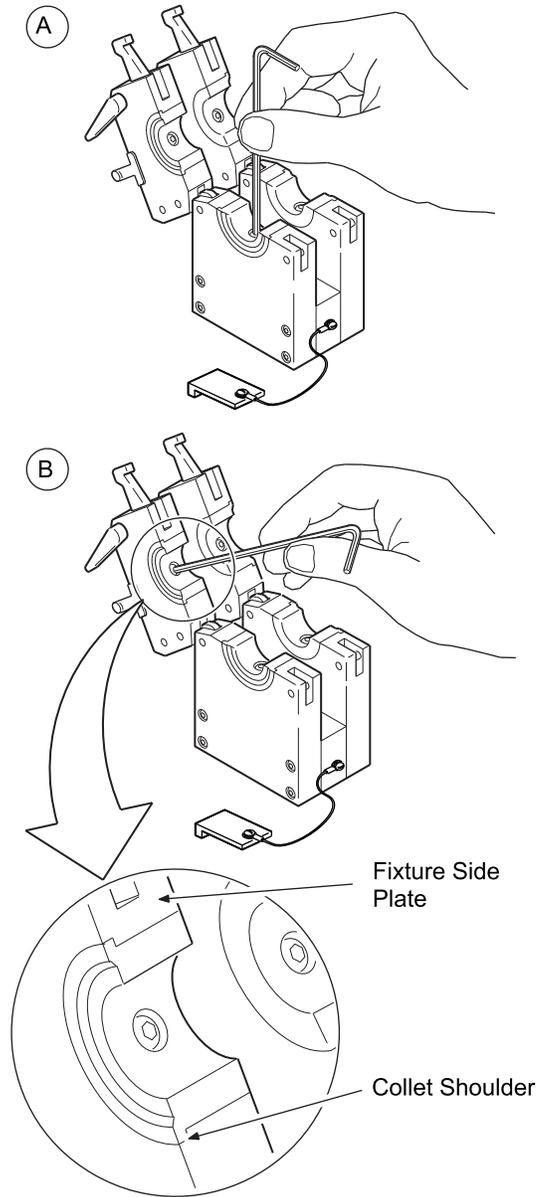

Figure 12 *Installing Collets*
2. Install the collet halves in both the top and bottom side plates and tighten the collet screws. Make sure the collet shoulder is flush against the fixture side plate. See Figure 12.